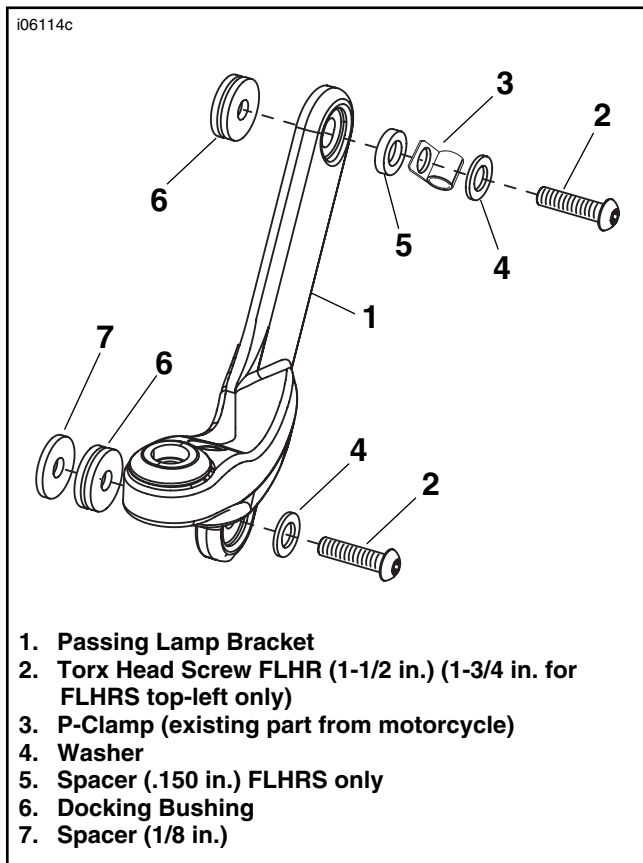

Figure 8. Passing Lamp Bracket Assembly (left-side shown bare for clarity as installed on FLHR/FLHRS models w/windshield docking)
It will be necessary to utilize the 1/8 in. spacer included in the passing lamp main kit for installation. This spacer will be positioned on the lower mounting bolt between the nacelle and the docking bushing on motorcycles with windshield as seen in Figure 8, and on the lower mounting bolt between the nacelle and passing lamp bracket on motorcycles without a windshield as seen in Figure 9.
See Figure 8. On FLHT/FLHR models, the .150 in. spacer (5) will not be used. On FLHRS models, install clutch cable P-clamp (3) between washer and spacer as shown in Figures 8 and 9.
See Figure 9. On FLHT/FLHR models, the .150 in. spacer (5) will not be used. On FLHRS models, install clutch cable P-clamp (3) between washer and spacer as shown in Figures 8 and 9.